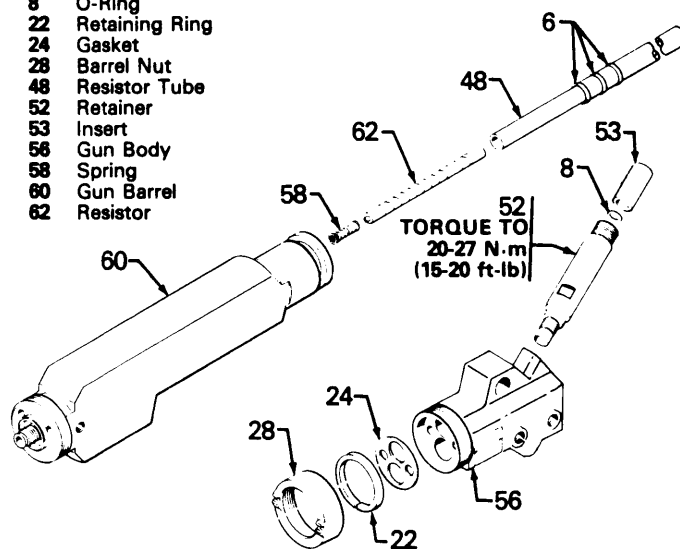

Fig 12
Loosen the barrel nut (28) using wrench (83b) supplied. Pull the gun barrel forward off resistor tube. Be careful not to lose the gasket (24). See Fig 12.
Resistor Tube/Resistor Replacement (See Fig 12)
Resistor Tube Regreasing (See Fig 12)